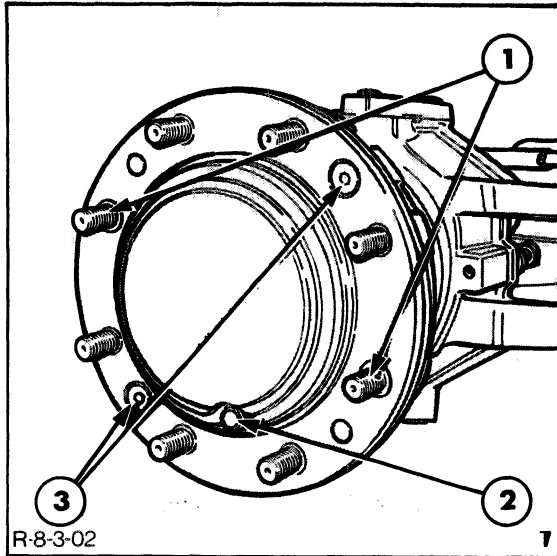

FIGURE 7-51
4. Remove the two 8 mm socket screws and the two shouldered wheel studs, Figure 7-51, securing the planetary carrier assembly to the hub assembly.